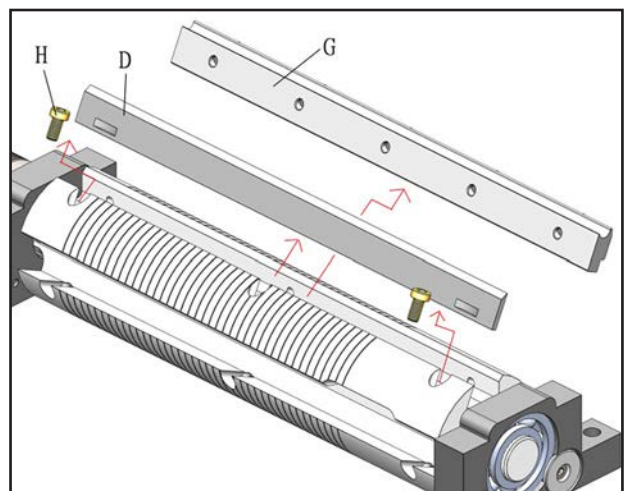

**Figure 20.** Removing gib, knife, and jack screws.
4. Put on protective gloves, then carefully remove the gib (G), knife (D), and jack screws (H) (see **Figure 20**). Remove the remaining knife in the same manner.
5. Thoroughly clean the cutterhead, knife (D), gibs (G), jack screws (H), and gib bolts (F). Check the screws and bolts; if the threads appear worn or stripped, or if the heads are damaged, replace them.
6. Install the new knife (D), jack screws (H), gib (G), and gib bolts (F).